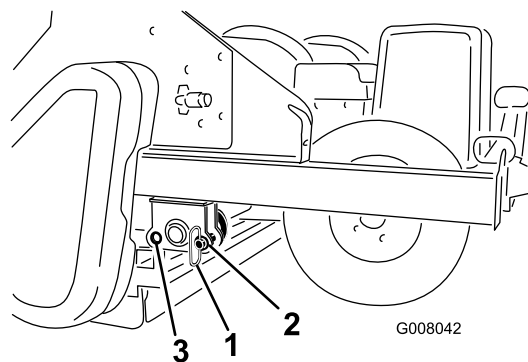

Figure 16
1. Remove the storage pins from the rear hole position (Figure 16).
3. Install the storage pins into the front hole position (Figure 16).